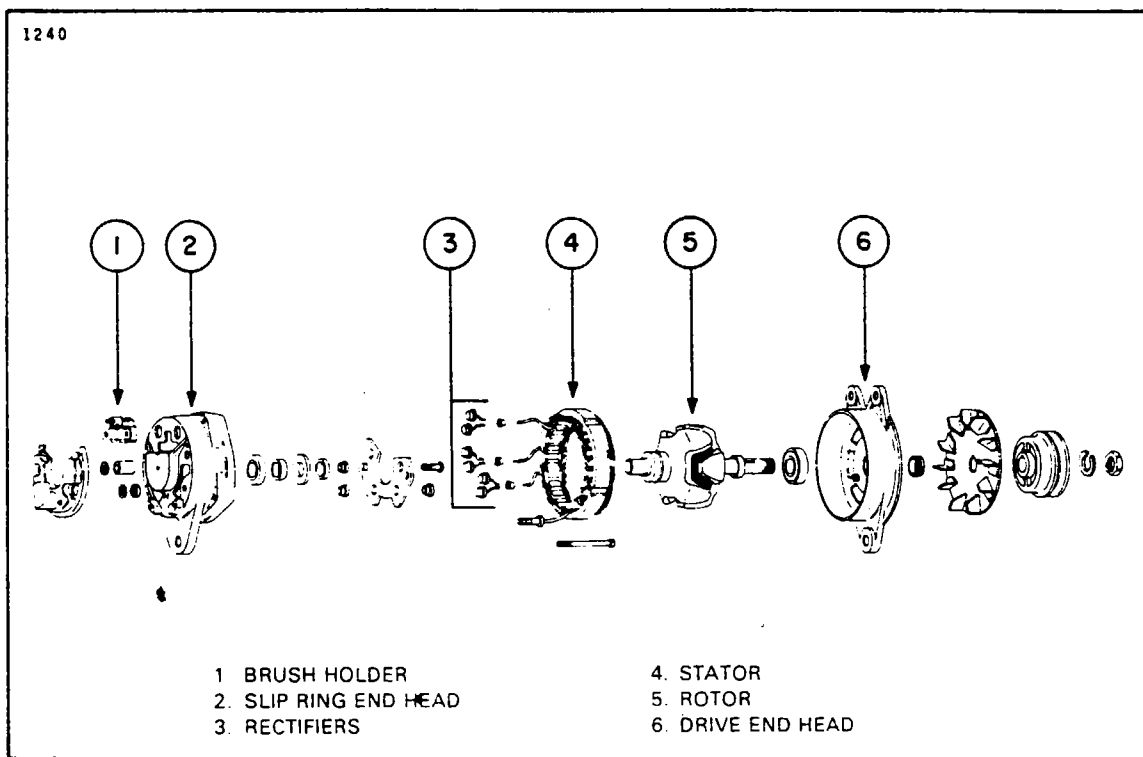

Figure 11-16. Exploded View of Alternator (Prestolite)
11-26. DESCRIPTION OF ALTERNATOR. (Refer to Figure 11-16.) The principal components of the alternator are the brush holder assembly (1), the slip ring end head (2), the rectifiers (3), the stator (4), the rotor (5) and the drive end head (6).